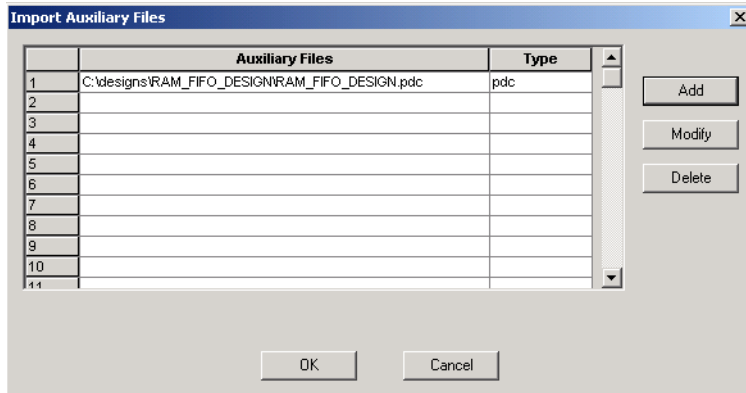

Figure 7-7. File Added to the Import Auxiliary Files Dialog
3. Select your file and click *Import*. The file is added to the **Import Auxiliary Files** dialog box, as shown in Figure 7-7.